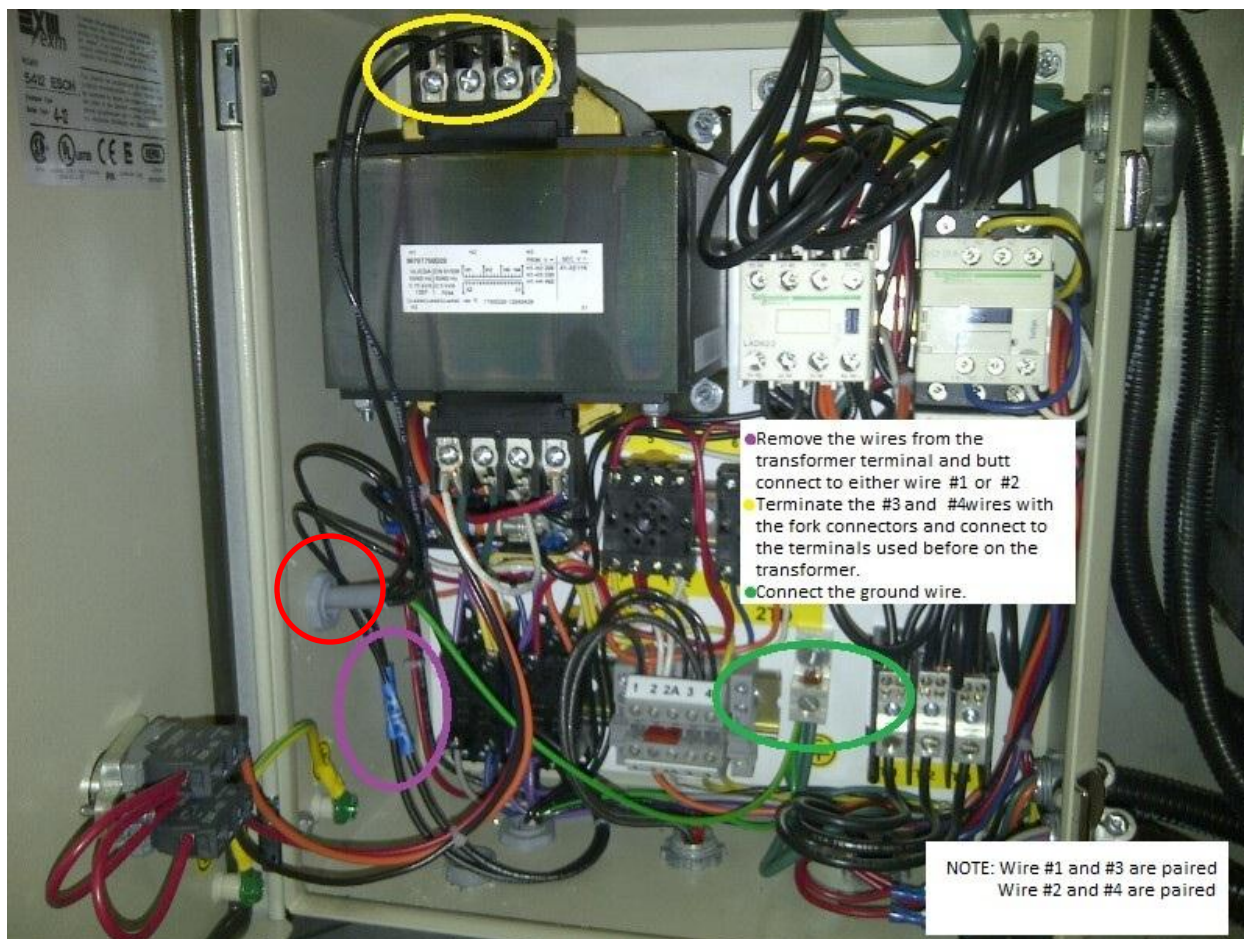

Figure 1: CONTROL BOX
Step 1: Mark a point inside the electrical enclosure on the left side, 4" from the bottom of the electrical enclosure and 2" from the door. (See Red circle in Figure 1 - Page 2)
(REFER TO CONTROL BOX PHOTO: Figure 1)